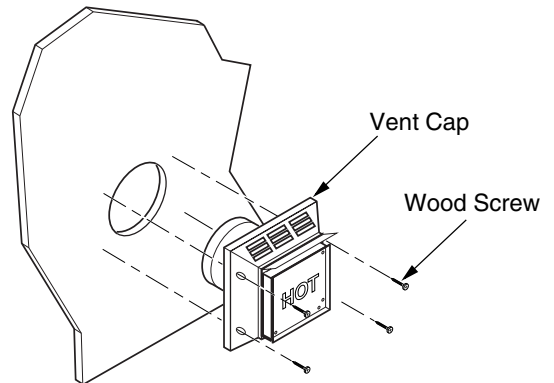

Figure 25 - Installing Horizontal Vent Cap (Noncombustible Exterior)
- Noncombustible Exterior Wall:** Apply a bead of non-hardening mastic around the outside edge of the vent cap. Position the vent cap in the center of the 7 1/2" (19.1cm) hole on the exterior wall with the arrow on the vent cap pointing up. Attach the vent cap with four wood screws provided (see Figure 25). **Note:** Replace the wood screws with appropriate fasteners for stucco, brick, concrete, or other types of siding.